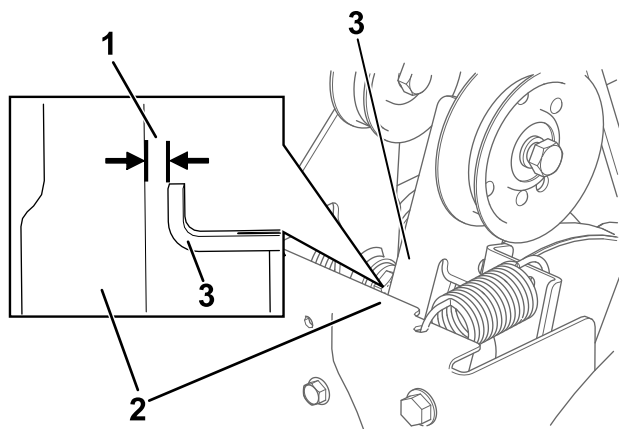

Figure 28
3. With the auger/impeller lever disengaged, ensure that the gap between the auger clutch arm and the frame of the machine is 1.5 mm (1/16 inch) as shown in Figure 28.